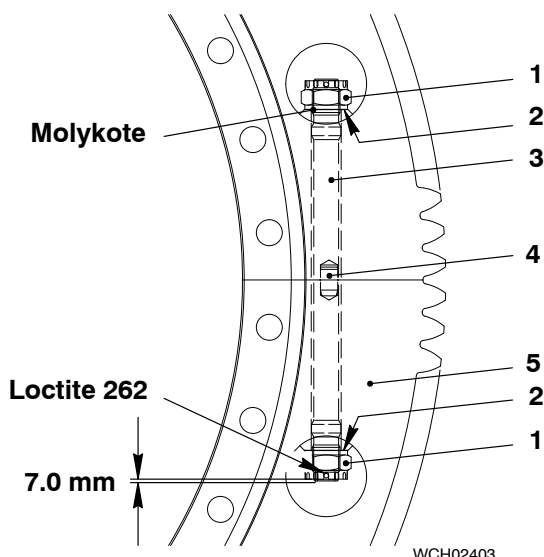

Fig. 3
- 1) Measure and record the length of the four elastic studs (3, Fig. 3).
- 2) Remove grease from the thread of the castle nuts (1).
- 3) Apply Loctite 262 to the thread of the castle nuts (1).
- 4) Put one elastic stud (3) in opposite positions in each half of the crankshaft gear wheel.
- 5) Put a base (2) and castle nut (1) in position on each end of the two elastic studs (3). Make sure that there is a distance of 7.0 mm between the top of the elastic stud and the castle nut.
- 6) Put a split pin in position in the elastic stud (3) to hold the castle nut (1) in position.
- 14) Apply Molykote paste the threads of the four remaining castle nuts (1, Fig. 3)
- 15) Install the four remaining castle nuts (1) to the elastic studs (3).
17) Measure the length of the elastic studs (3, Fig. 3)
19) If you cannot install the split pin to lock the castle nut (1) do as follows: